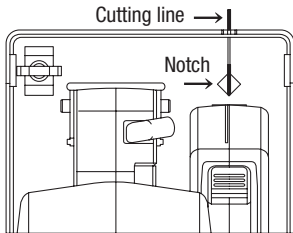

Fig. 4. Alignment with Cutting Line
2. Line up the sight line on the shoe with your cutting line (Fig. 4).